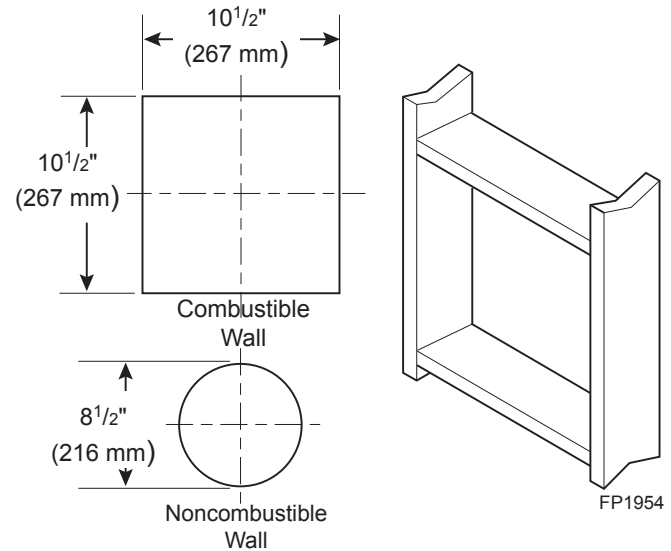

Figure 25 - Exterior Wall Framing Dimensions for 5" x 8"
- Combustible Exterior Walls:** Cut a 10½"H x 10½"W square hole through the exterior wall frame. *Figure 25*
2. The center of the hole should line up with the center line of the horizontal rigid vent pipe end. Allow ¼" minimum rise per foot. *Figure 25*